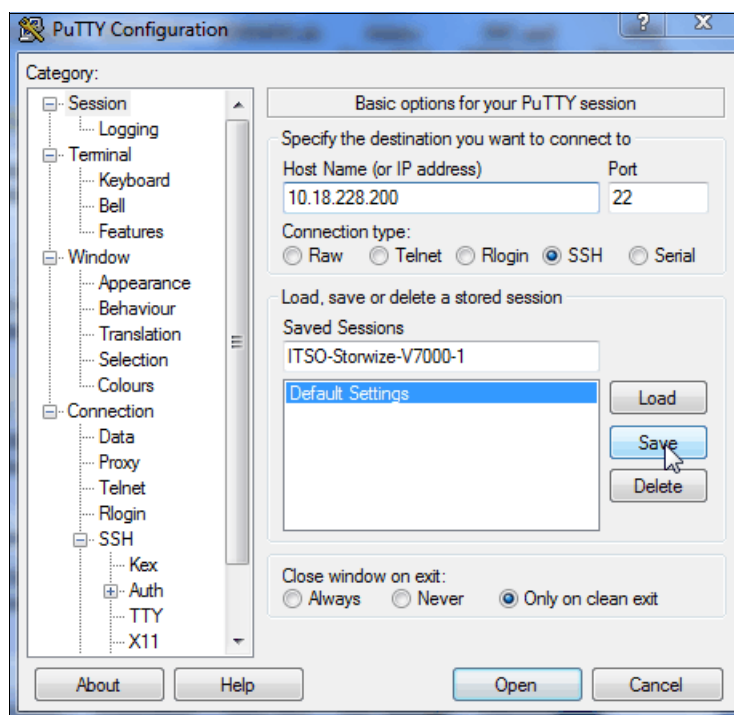

Figure A-13 Save the new session
7. Click **Save** to save the new session (Figure A-13).